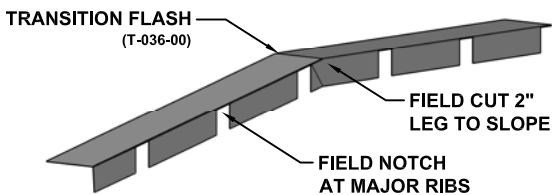

**FIGURE 11**
1. Slide roof sheet onto the purlins and against the building's wall sheets as shown in **Figure 11**. Center the sheet, mark each of the major ribs at the top of the roof panel as shown. Mark each end of the roof panel too. Remove roof panel and set aside.